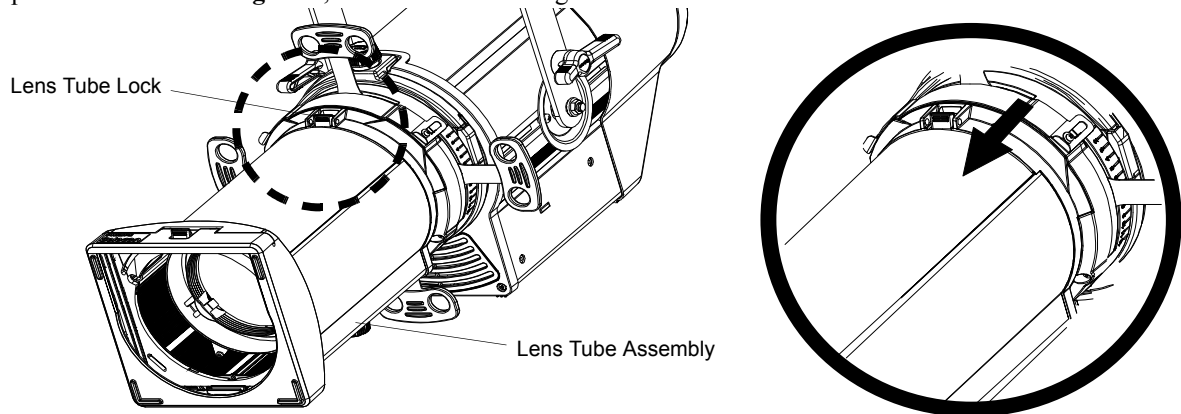

Figure 5: Lens Tube Assembly Removal - Lens Locking Catch
Step 2. As illustrated **Figure 5**, side lens tube locking catch forward.